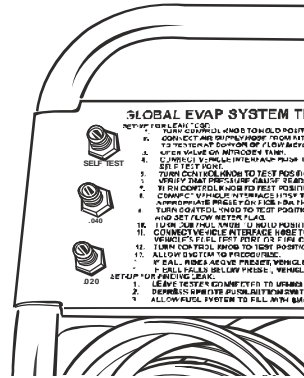

Fig. 5
2. Connect Vehicle Interface Hose to the Self-Test Port (fig. 5) located on the Control Panel. Hand-tighten the fitting; **DO NOT OVER-TIGHTEN!!!**